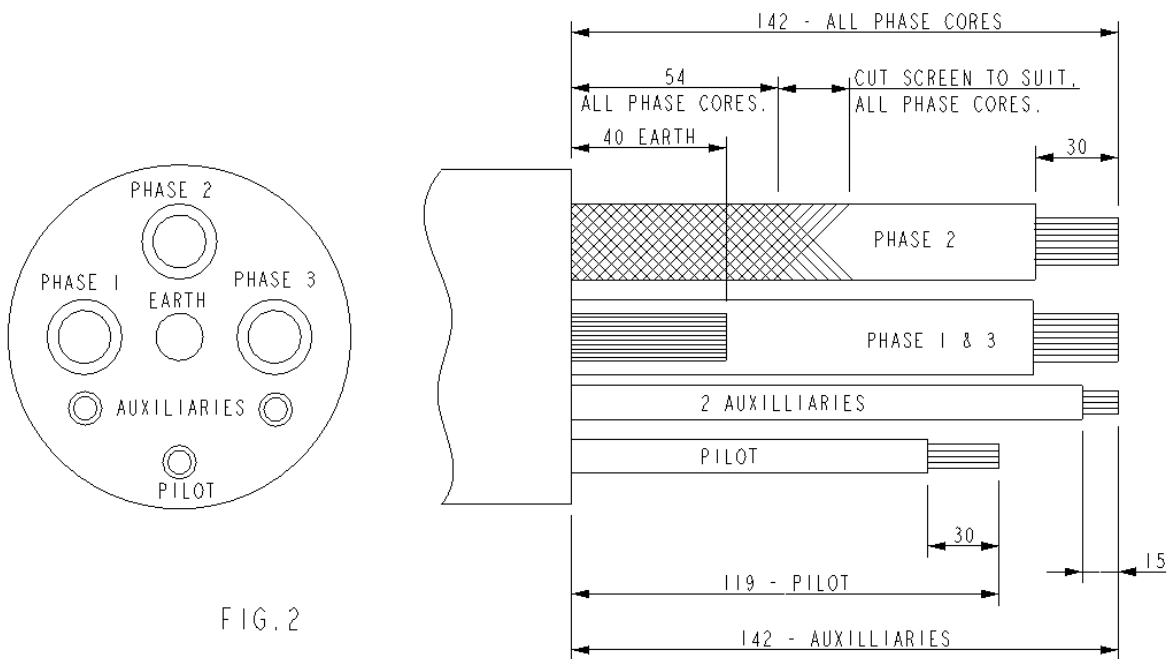

FIG. 2
3. Dismantle the plug assembly by removing the gland nut (6), the clamp cone (9), sealing ring (8), sleeve (2 if fitted) and backing ring (7).
4. The remainder of the plug can now be dismantled by the removal of the socket set screw (12 not shown) that locks the gland body (14) into the plug body (1). The earth clamp (5), insulator cap (4), insulator (3) and contact tubes (10, 11 and 13) can now be removed.
5. Pass the gland nut (6), clamp cone (9), sealing ring (8), sleeve (2 if fitted), backing ring (7) and gland body (14) along the cable. If convenient this can be done after making the cable off as fig.2.
6. As shown in Fig.2 remove 142mm from the outer sheath, unravel the screening around each of the main conductors and twist each screening into a rope.